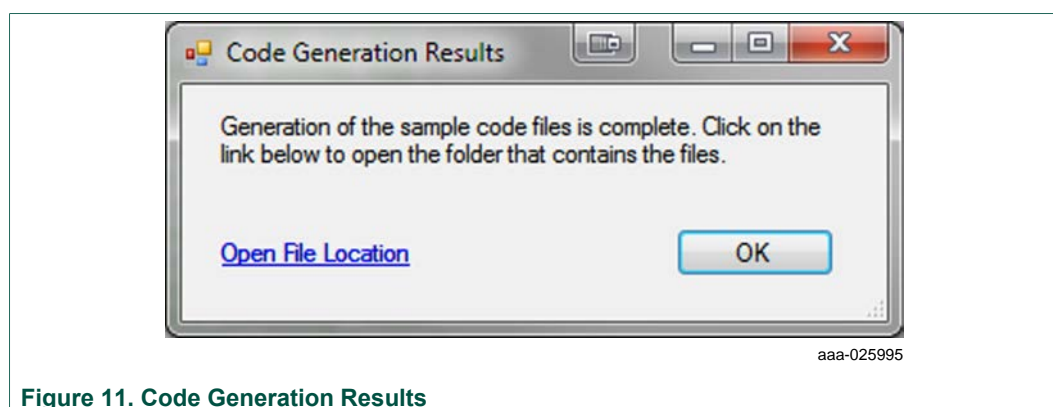

Figure 11. Code Generation Results
- In the MC33PT2000 Developer Studio toolbar, select **Tools->Generate MC33PT2000 Load Data Code**. When the regeneration process completes, the Code Generation Results window will appear as shown in Figure 11.